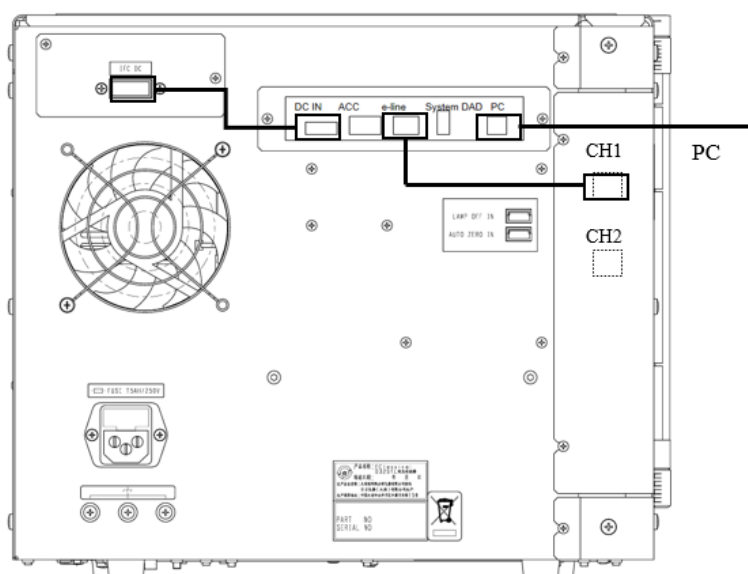

Fig. 3-2 D3251L circuit connections
- 1) If the IFC board is optional, connect the e-Line cable, communication cable and white USB cable to the corresponding interface as shown in Figure 3-2.